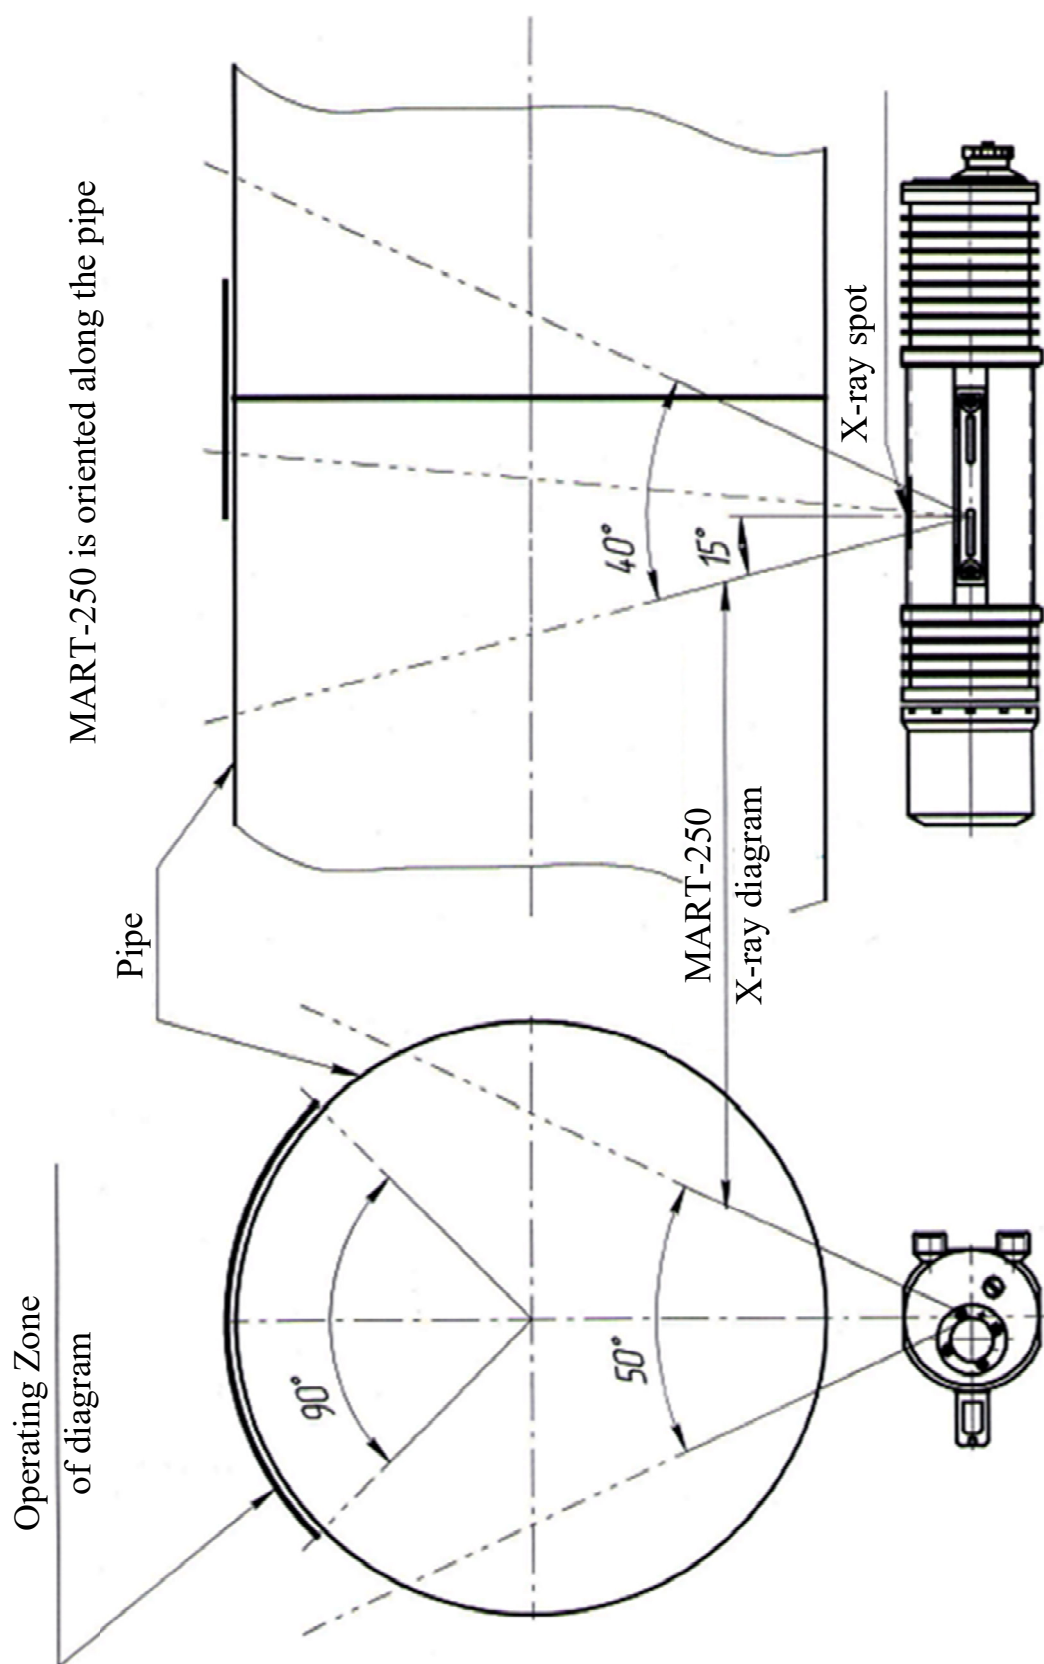

Figure 6 – Recommended orientation of the MART-250 tool
7.9.1 When adjusting the orientation of MART-250 tubehead in relation to the target weld, keep in mind that the cone of X-ray beam has different angles of longitudinal and transverse divergence, and the cone axis is angled at 5 degrees toward the device housing. The recommended orientation of the X-ray tubehead is **ALONG THE PIPE AXIS** to maximize the coverage of weld length within wider divergence angle of 50° exposed at a small tubehead-to-weld offset as shown in Figure 6.